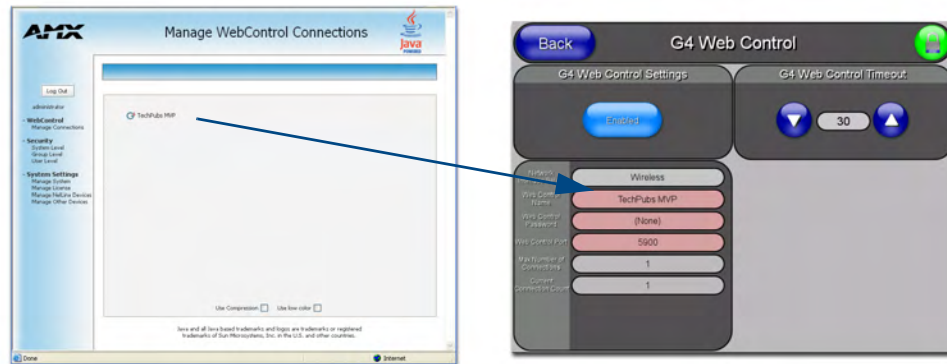

FIG. 32 Sample relationship between G4 Web Control and Manage WebControl Connections window
9. From the Web Name keyboard, enter a unique alpha-numeric string to identify this panel. This information is used by the NetLinx Security Web Server to display on-screen links to the panel. *The on-screen links use the IP Address of the panel and not the name for communication (FIG. 32).*